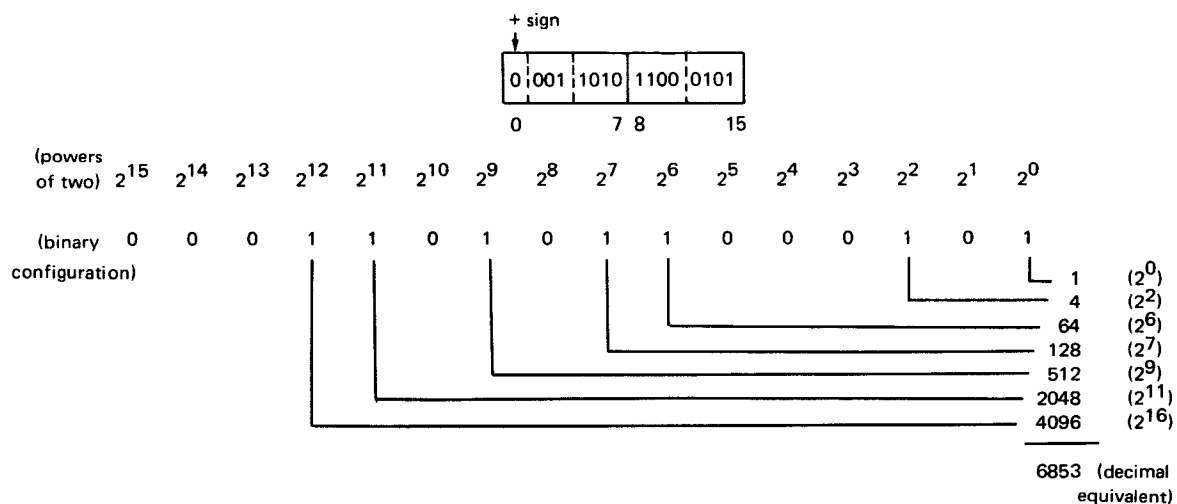

Figure 10-1. Comparison of Binary Numbers and Values Expressed in Powers of 2
Binary ones and zeros, with relation to their positions in a string of bits, represent values expressed in powers of two (see Appendix C.3). The powers of two increase from right to left (Figure 10-1). A zero (0) bit indicates no value and a one (1) bit indicates that a value exists. By adding all the powers of two that correspond to one bits, you can determine the decimal equivalence for a positive binary number. A zero bit in the high order bit or any unused high order bits signify a positive binary number.